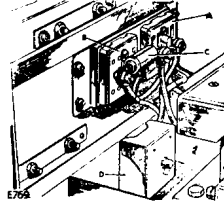

Fig. 116. Terminal boxes
291. Two 2-point terminal boxes (Fig. 116) are located on the left side of the vehicle adjacent to the table.
292. The radio batteries and the charging circuit are connected together at the forward terminal box (Fig. 116 (A)) which is identified —BTY+ and hence the batteries are charged simultaneously with the vehicle batteries. See Wiring Circuit and para. 234.
293. The radio station is connected to the second box (Fig. 116 (B)) which is identified +EQPT— and has a 2 micro-farad F capacitor (Fig. 116 (C)) connected across its terminals. The positive terminal is also connected to the generator side of the radio ammeter, and the negative terminals of the two boxes are connected together and to earth. The radio station is therefore connected to the radio batteries via the ammeter.
295. The terminals of the capacitor are very close to the sides of the terminal box cover (Fig. 116 (D)) and to prevent short circuiting, before removing the cover, the fuse located at the left side of the instrument panel must be withdrawn and one terminal of the radio batteries disconnected, either at the battery or at the —BTY— terminal box.